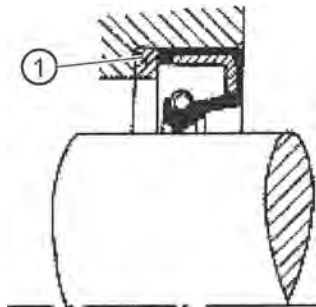

Figure 12: Inserting a spacer ring between the base of the bore and the rotary shaft seal
- Insert a spacer ring between the base of the bore and the rotary shaft seal (see Figure 12).